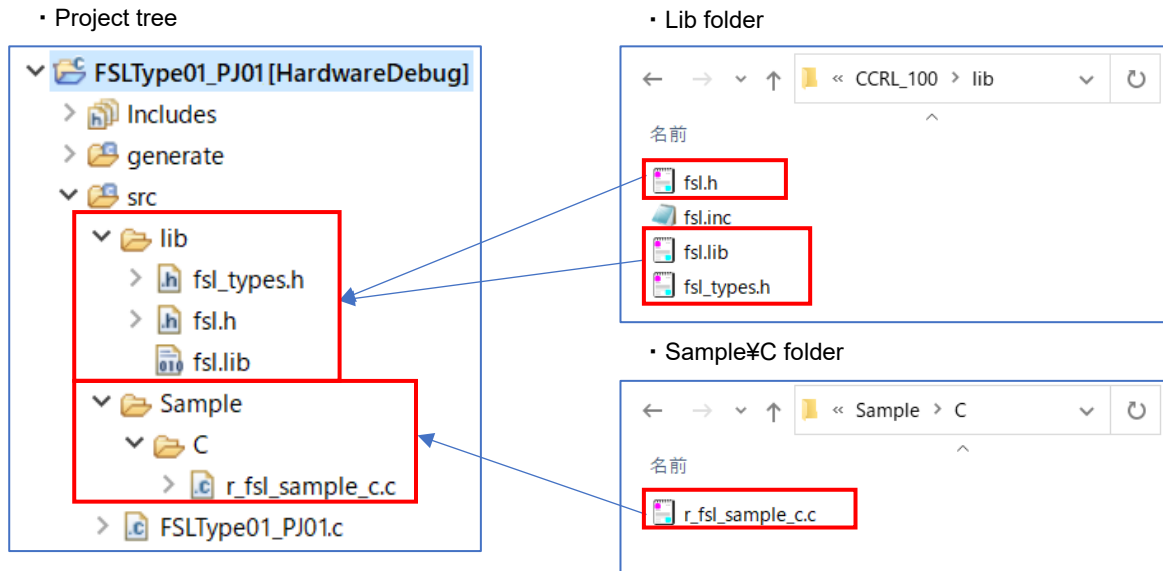

Figure 7-14. Specifying the Source and Include Files (CC-RL)
- CC-RL: Register the flash self-programming library files “fsl.h”, “fsl_types.h”, “fsl.lib” and “r_fsl_sample_c.c” in the “src” folder output by e² studio. (Figure 7-14)